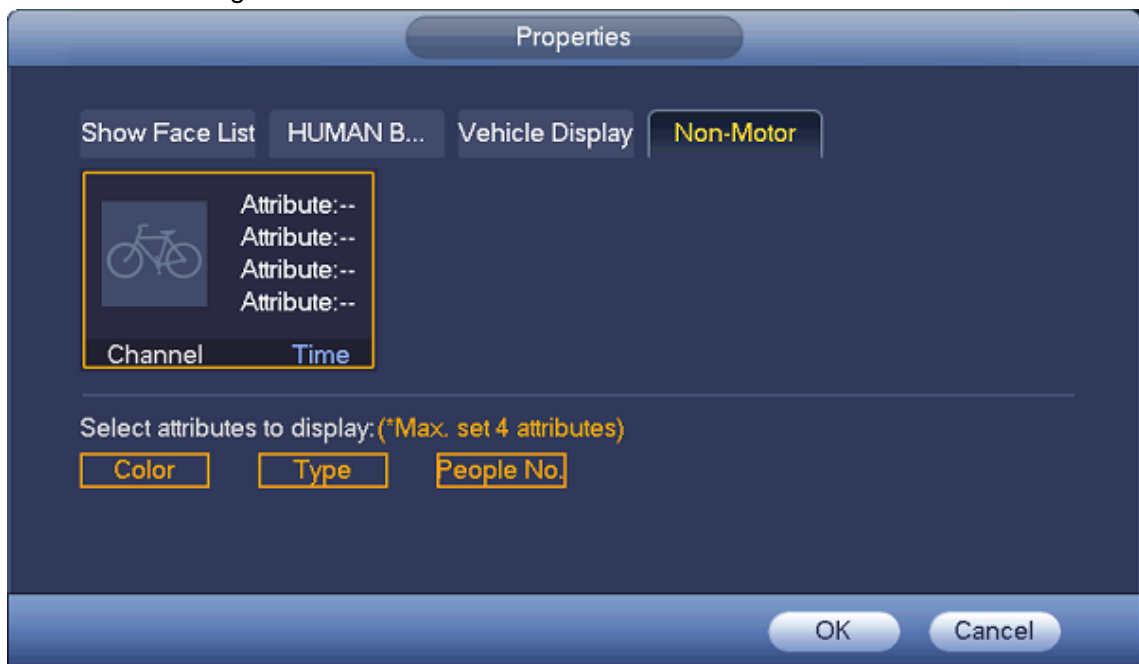

Figure 4-66
Step 7 (Optional) Click Non-Motor and select attributes to display, including color, type and people number. See Figure 4-66